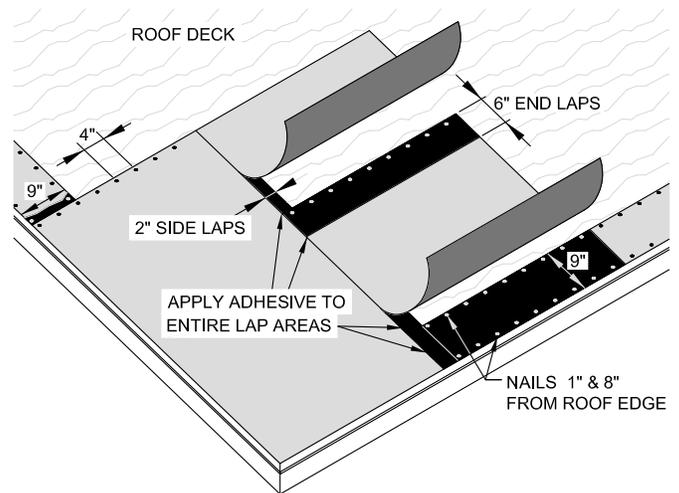

**Figure 4 - Hips and Ridges: Exposed Fastener Installation**
- i. Continue until the end of the hip or ridge is reached. (See **Figure 4**)